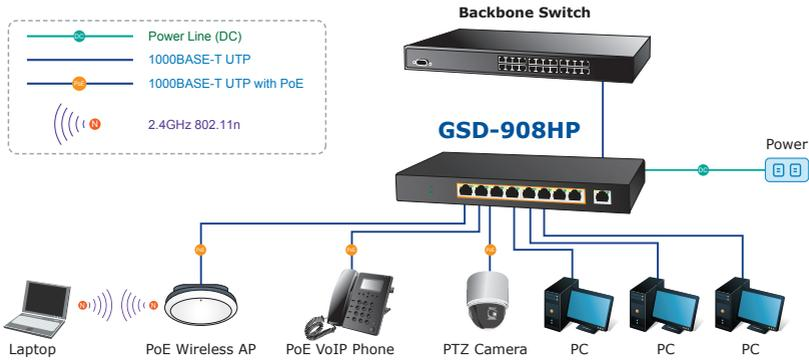

Figure 3-8: Department/Workgroup PoE Switch Connection
Step 2: Providing up to eight 802.3at/802.3af PoE in-line interfaces, use an Ethernet cable to connect various 802.3at/802.3af PD devices, such as wireless AP, IP phone and IP camera devices, as shown in Figure 3-8.